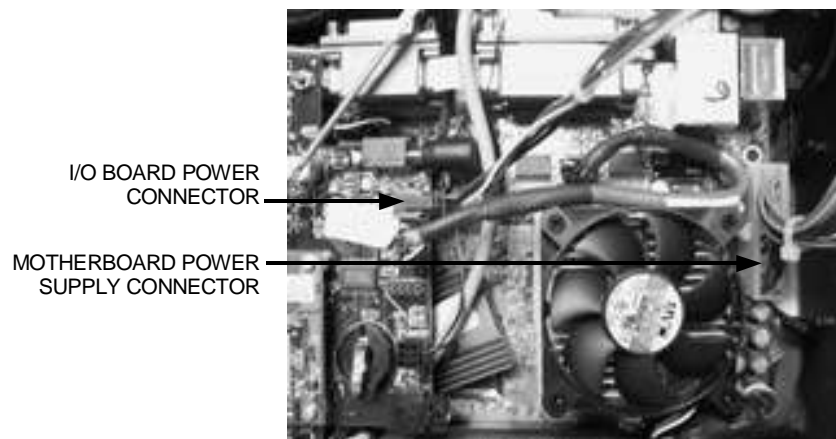

FIGURE 4 - CLOSEUP OF MOTHERBOARD
11. Disconnect the 20-pin power supply connector from the motherboard (see Figure 4).
12. Disconnect the I/O board power connector from J6 on the I/O board (see Figure 4).
- Connect the 20-pin power supply connector to the motherboard (see Figure 4).
- Connect the mating 4-pin connector to J6 on the I/O board (see Figure 4).